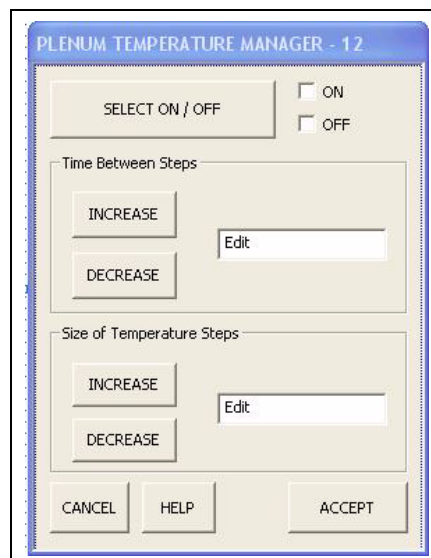

Figure 5Q
- Plenum Temp Manager:**  This will reduce the plenum temperature setpoint(s) if the unload rate reaches its maximum allowable value for the time specified by the “Time Between Steps” menu. Once the time has been exceeded, the dryer will reduce the temperature setpoint(s) by the value given in the “Size of Temperature Step”. If the unload rate falls below the maximum allowable value for the “Time Between Steps” period, the temperature setpoint(s) will be increased by the “Size of Temperature Steps” until the original setpoints are met. (See Figure 5Q.)